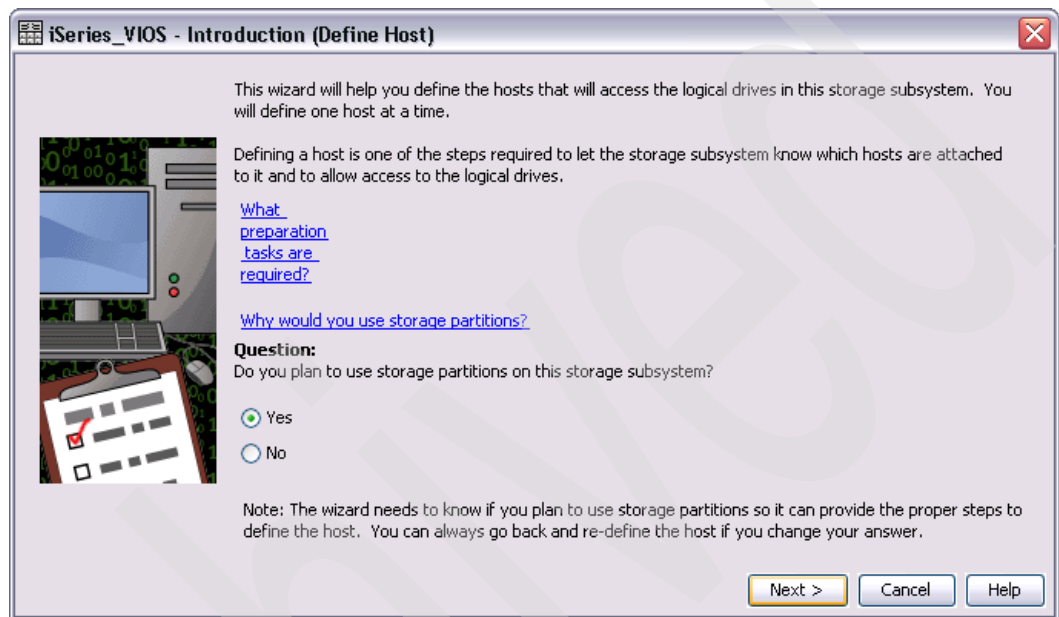

Figure 7-64 DS Storage Manager Introduction (Define Host) dialog
5. We accept the default setting of **Yes** for planning to use storage partitions on our storage subsystem and select **Next** to proceed, as shown in Figure 7-64.